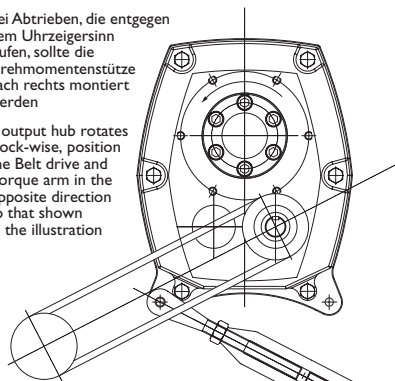

Fig 3
2. Install motor and wedge belt drive with the belt pull at approximately 90° to the centre line between driven and input shafts. See fig 2. This will permit tensioning of the wedge belt drive with the torque arm, which should preferably be in tension. If output hubs runs anti-clock-wise, torque arm should be positioned to the right. See fig 3.